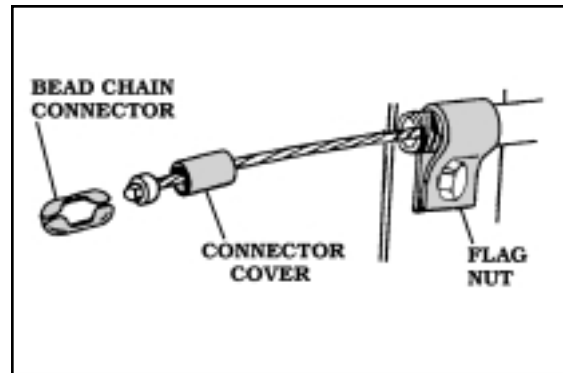

FIGURE 29
3. THE **FLAG NUT** MAY BE USED TO ANCHOR THE **CRUISE CABLE** TO THE EXISTING THROTTLE CABLE BRACKET. **FIGURE 29** IN SOME CASES THERE IS AN EXISTING HOLE, IN OTHER CASES YOU CAN DRILL A **5MM (.20")** HOLE IN THE BRACKET.